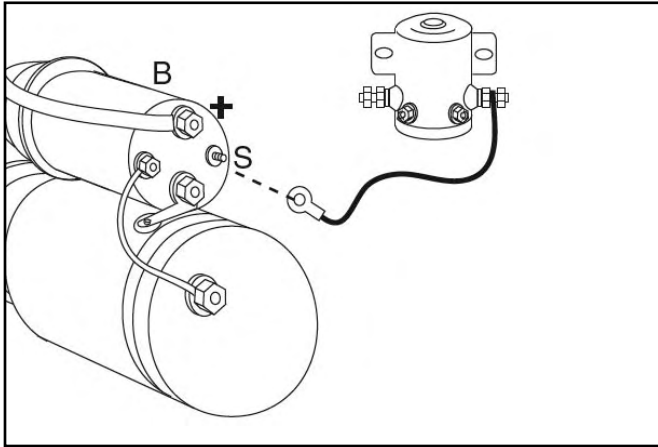

Figure 6. Disconnecting the "S" Terminal
- b. To avoid starting the engine during this test, disconnect the “S” terminal from the starter solenoid (Figure 6, page 8) when prompted by the analyzer, then press [Y Enter] to continue with the magnetic circuit test.